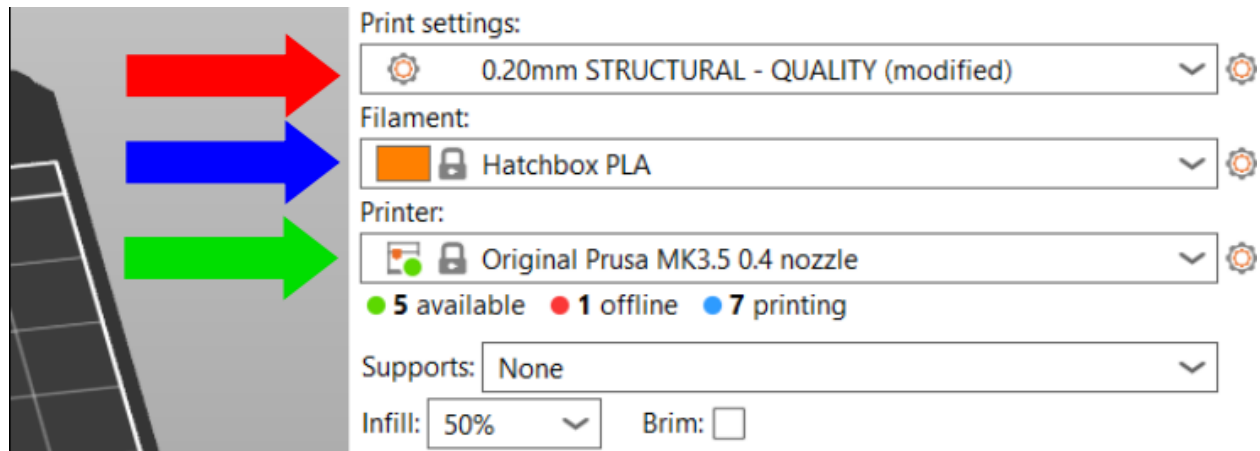

Figure 4
5.) Go back to the “Plater” tab in the top left corner of PrusaSlicer. Then click the “Print settings” drop-down menu and select the 0.20mm Structural option (see red arrow in Figure 4).
6.) Open the Filament drop-down menu (see blue arrow in Figure 4) and select the filament type you want to print in. a. Note: The recommended material for this device is PLA, but PETG is also acceptable.
7.) Open the Printer drop-down menu (see green arrow in Figure 4) and select your printer make and model. a. Note: If you don't see your specific printer in the drop-down menu, follow these instructions to add them: